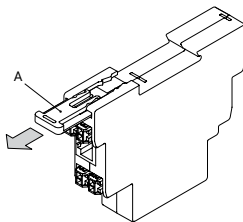

Fig. 2
Remove the mounting bracket (A) of the Shelly Pro 3EM as shown in Fig. 2.